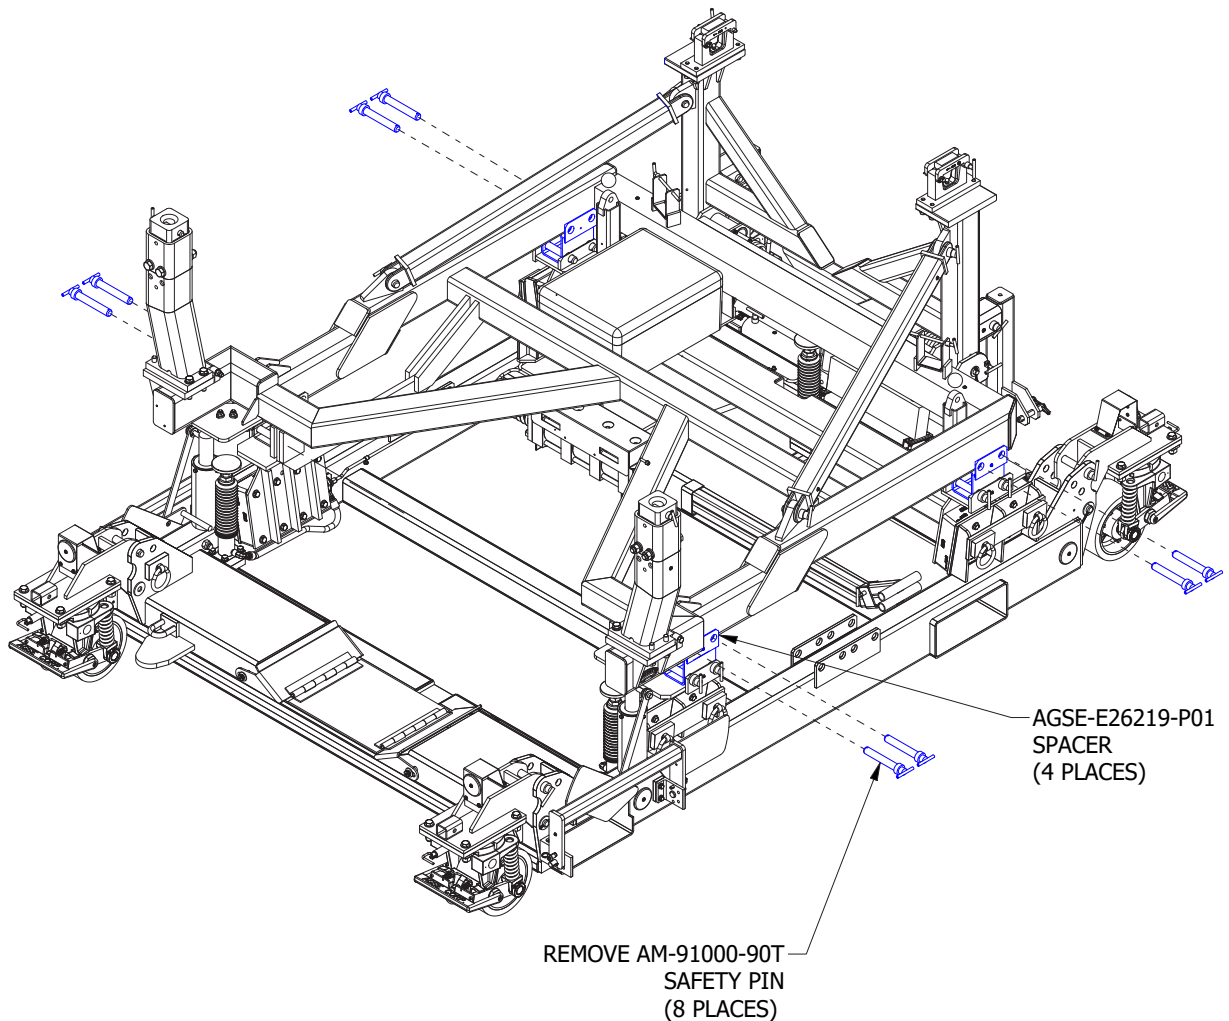

Figure 5.3-1
- 3) Remove eight (8) (4 on each side) AM-91000-90T cradle safety pins to free the cradle from the AGSE-E26219-P01 shipping spacers. (Illustration Figure 5.3-1).